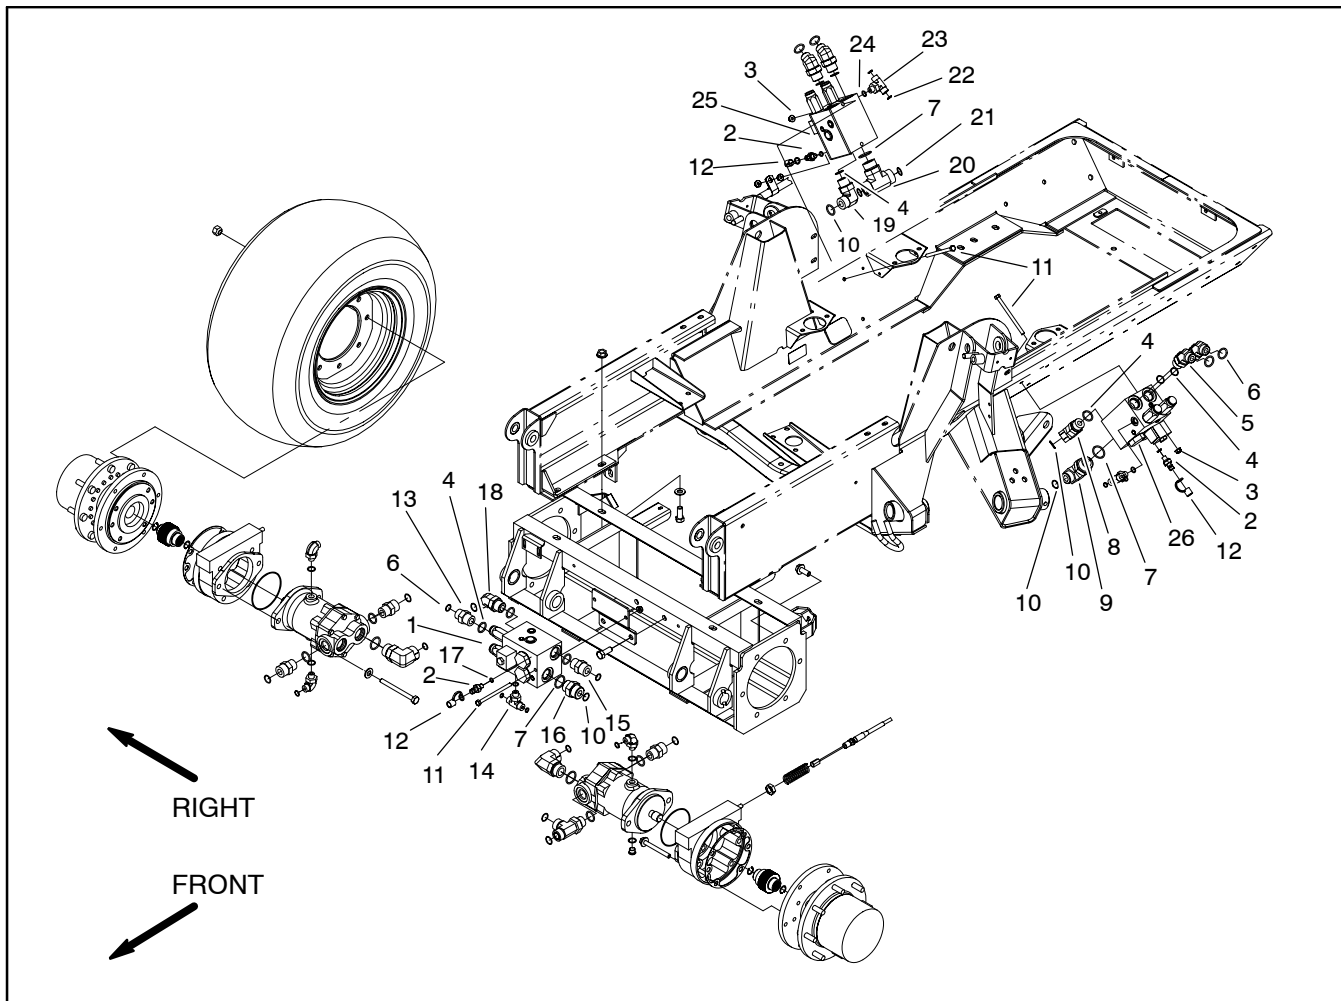

Figure 52
4. Remove hydraulic manifold from the frame using Figure 52 as guide.
1. Install hydraulic manifold to the frame using Figure 52 as guide.